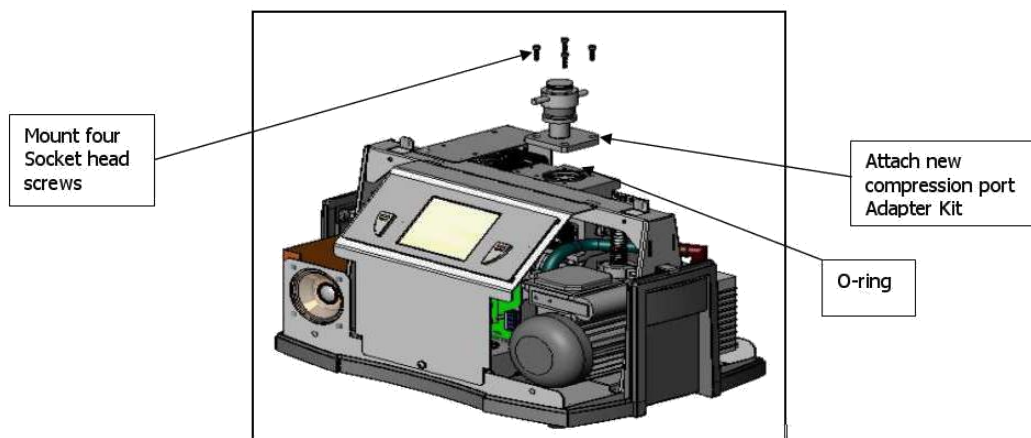

Figure 3: Compression Port Adapter Kit
6. Attach new compression port adapter kit using existing hardware and O-ring (Figure 3: Compression Port Adapter Kit).